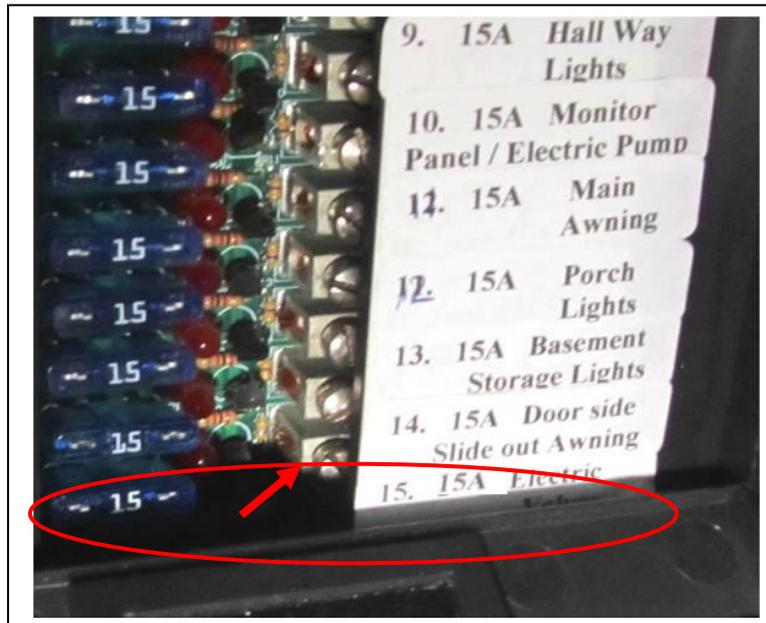
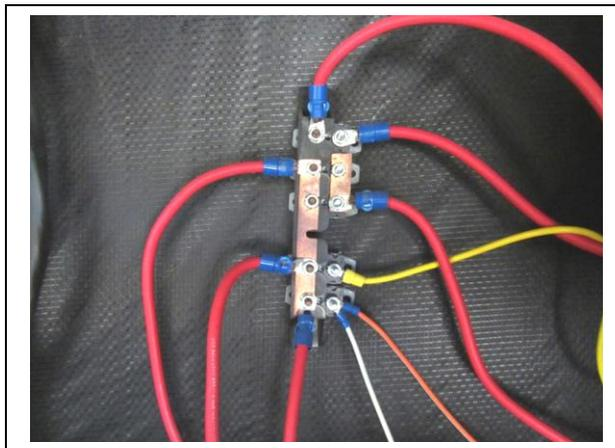
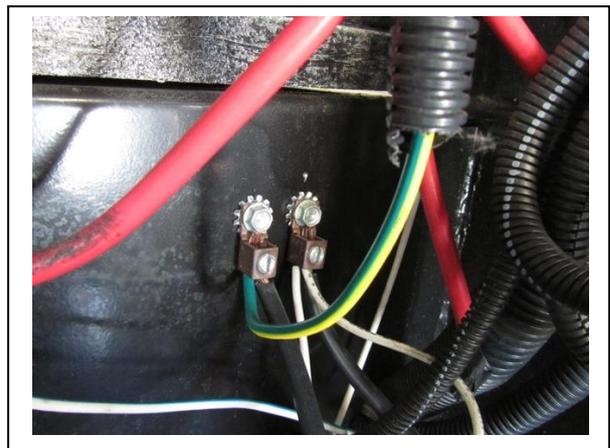

Fig. 14 (Example) – Arrow shows the spare slot assigned to Electric valves
Fig.15. Tie to + 12V Bus Bar connected to battery +ve terminal
Fig. 16 Tie to Ground lug (-12V) connected to battery -ve terminal
- **12 V supply source:** Fig. 14 Use a spare fused slot on the RV DC distribution panel if available to provide the +12 V supply line. Label the slot 'Electric Valves'. Ground (-ve12V) can be connected as shown below in Fig. 16 or directly to the battery.
- If a spare slot is not available connect directly to 12 battery terminals. A distribution bus bar and grounding lugs with direct connections to the battery terminals are convenient to obtain the +12 V (Fig. 15) and Ground (-12V) (Fig. 16) connections.